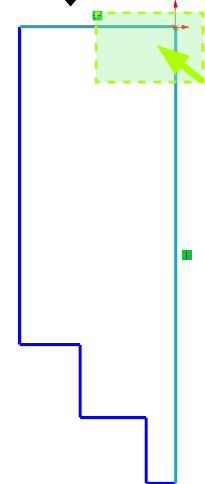
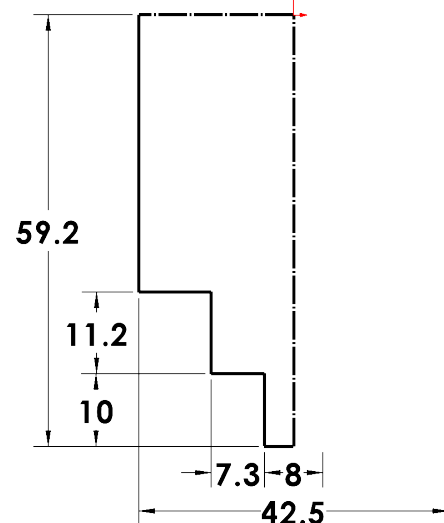

Fig. 3
Fig. 4
Step 6. Drag a selection to left to select line at **Origin**  and click **Construction Geometry**  on the context toolbar, **Fig. 3**.
Step 7. Click **Smart Dimension**  (S) on the Sketch toolbar.
Step 8. Add dimensions, **Fig. 4**.